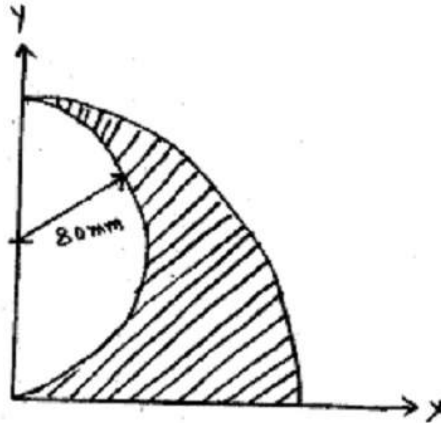

Fig.2
- 4 a) Determine the product of inertia of shaded area as shown in Figure.2 about the x-y axis. 8